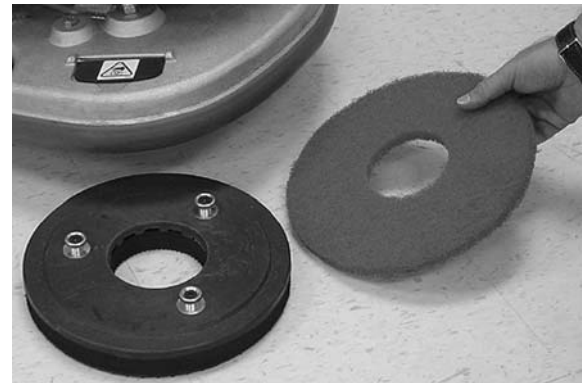

FIG. 42
5. Remove the pad(s)/brush(es) and clean. Rotate pad or replace when worn (Figure 42).